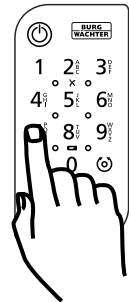

Fig. 2
- ② Enter your administrator or user code and check that the cylinder is activated (Fig. 2).